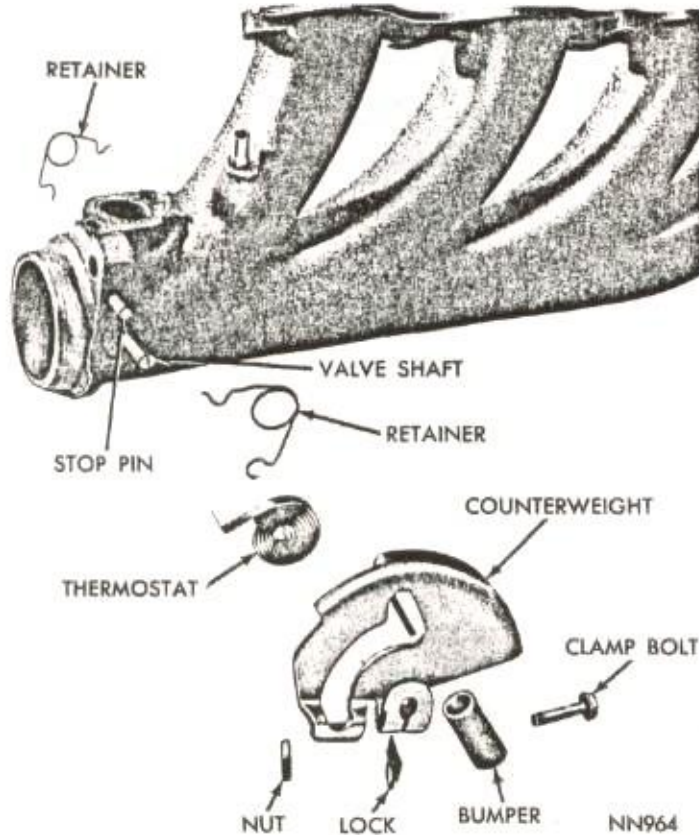

Fig. 4—Heat Control Valve Assembly
(1) Be sure shaft retainers (Figs. 4 and 5) are in place in grooves on valve shaft and stop pins. Then, turn shaft in the extreme counterclockwise position.